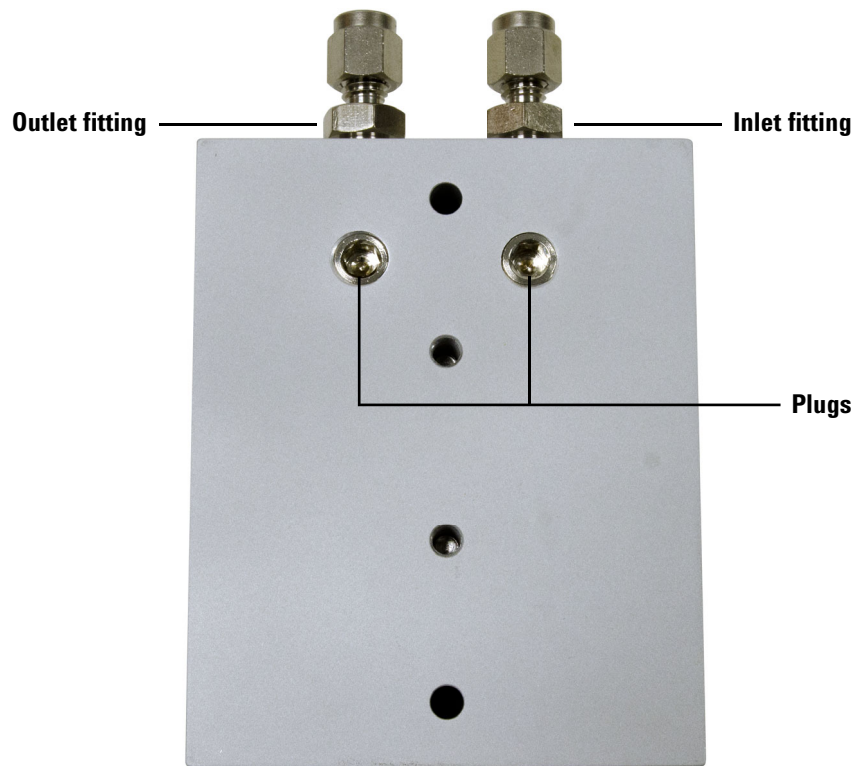

Figure 6. Plugs and inlet/outlet fittings on the connecting unit
- a** Using a 5-mm hex wrench, remove the two plugs on the underside of the connecting unit (**Figure 6**).
- b** Using a 1/2-inch wrench, remove the inlet and outlet fittings on the end of the connecting unit (**Figure 6**).